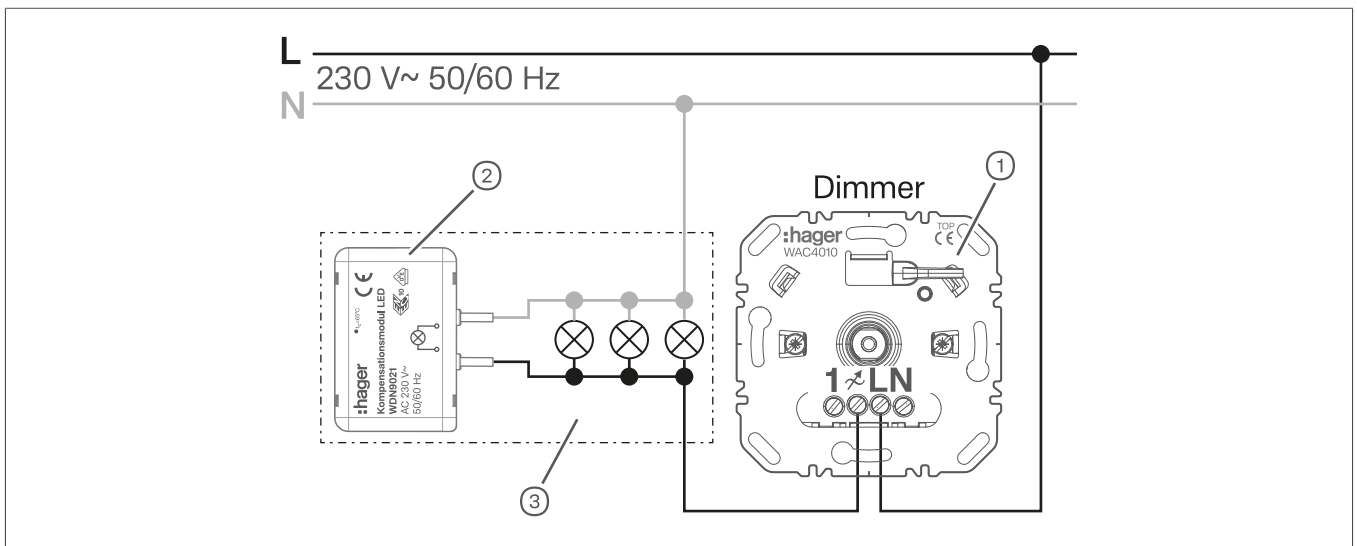
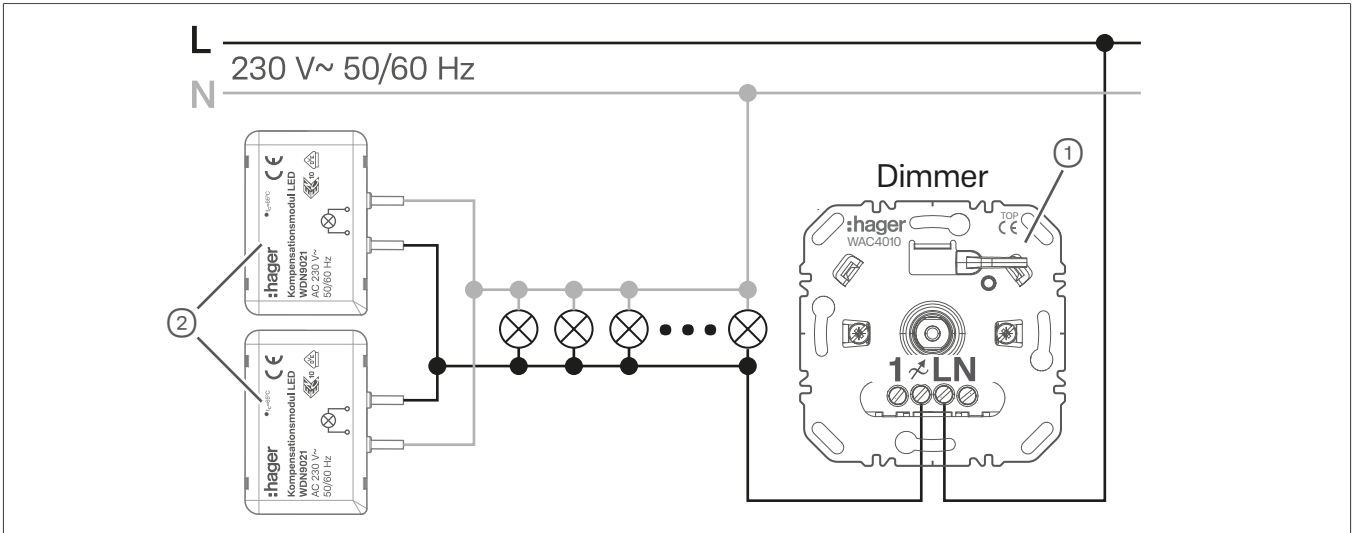

Fig. 1: Connection example in influencing factors
Fig. 2: Connection example with two modules
- ① Dimmer in phase-cut mode
- ② Compensation module
- ③ Lighting with HV LED lamp
- Connect the compensation module parallel to the HV LED lamp to the neutral conductor and the dimmed phase, (Fig. 1) Connection example in the luminaire housing, (Fig. 2) Connection example with two compensation modules.